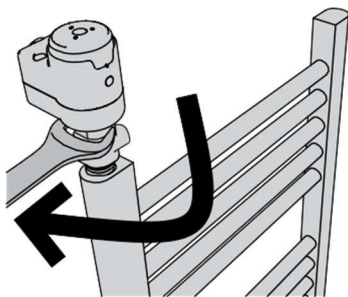

Fig. 10
7. Then using a 27 mm spanner turn the T-piece with screwed heating element until the last nipple thread turn and if necessary continue in order to have the regulating box facing forward (Fig. 10).